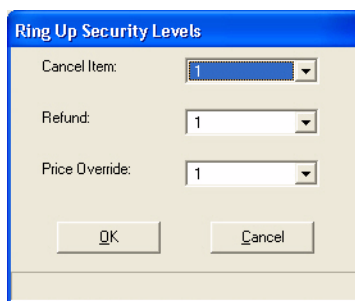

Figure 6-2 Ring Up Security Levels Window
2. Select **Ring Up** to display the Ring Up Security Levels menu. See Figure 6-2.